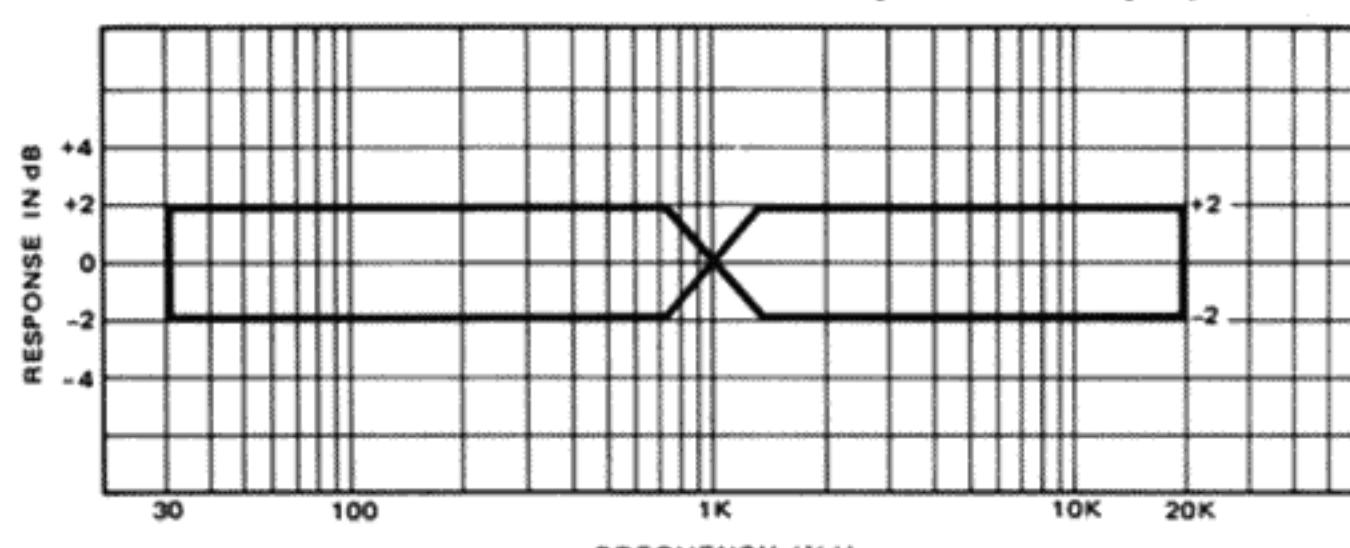

Figure 6-6. Overall Frequency Response
- Load a blank tape, enter Record mode and sweep the input signal frequency over the range 40 Hz to 22 kHz. While doing so, watch the voltmeter and check that the frequency response is within the tolerance specified in Figure 6-6.
- Put the deck into record mode and sweep the input signal frequency over the range 30 Hz to 20 kHz. Rewind the tape, play the recording, watch the voltmeter and check that the frequency response is within the tolerance specified in Figure 6-6.